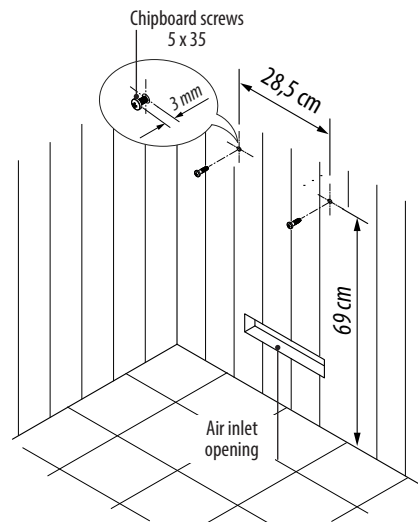

Fig. 3
- Tighten the 2 sheet metal screws to the cabin wall according to the measurements in fig.3 and keep a 3 mm gap between screw head and wall.
3. Fit in the sauna heater to the screws with the suspension slits on the rear side (fig.3)